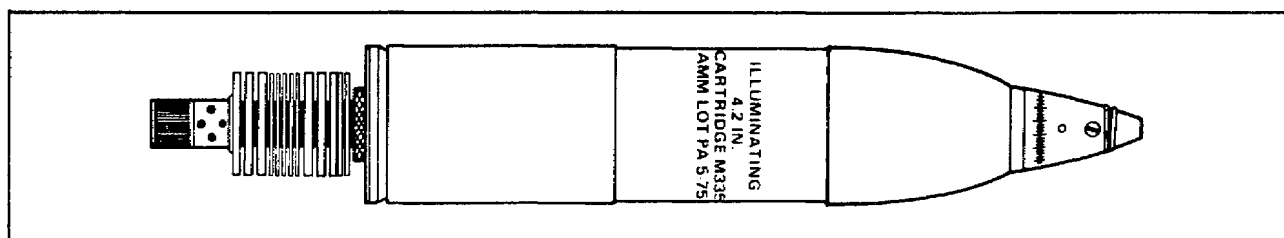

Figure 35. 4.2-Inch Illuminating Mortar Cartridge.
4.2-Inch Illuminating Mortar Ammunition. The 4.2-inch illuminating mortar cartridge is shown in Figure 35. This cartridge uses a time fuze and a black-powder expelling charge. The filler consists of illuminating charges and a parachute. When the fuze functions at a pre-designated time after firing, the entire payload is expelled from the base. The illuminating charge is ignited, and the parachute opens. The burning illuminating charge provides light as it descends by parachute.